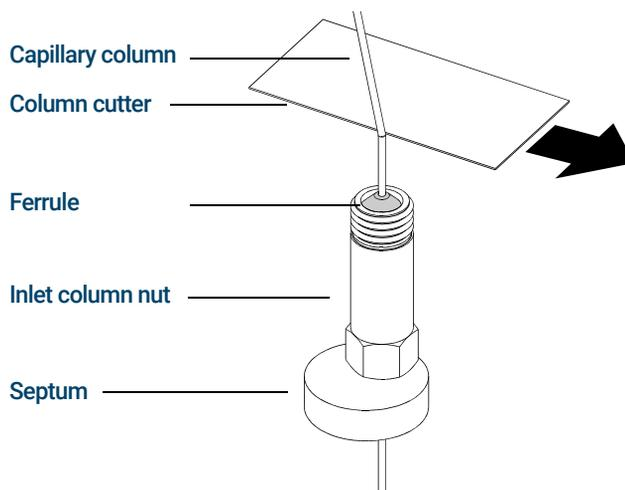

Figure 2. Preparing a capillary column for installation (standard inlet column nut shown)
- Wearing clean gloves, slide a septum, column nut, and conditioned ferrule onto the free end of the column. **Figure 2** shows a standard inlet column nut, but the nut is similarly positioned for a self-tightening column nut. The tapered end of the ferrule should point away from the column nut for a column attachment to an inlet.